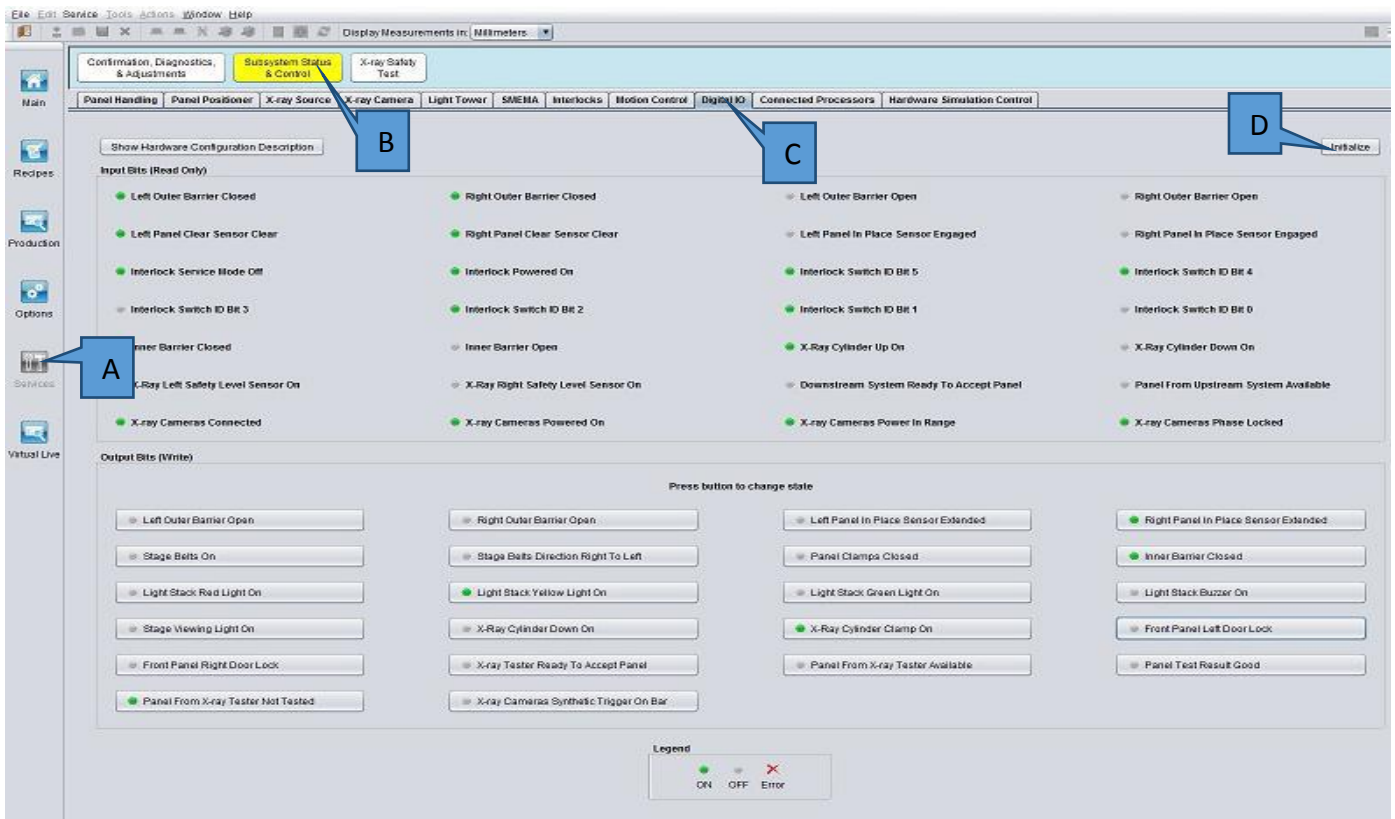

Figure 3 Digital IO
3. Quit and restart V810 software. Go to Digital I/O tab and initialize as show in Figure 3.